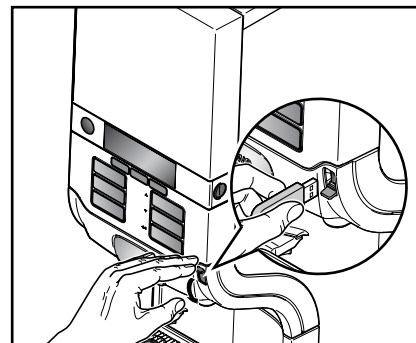

Fig. 23
- Insert the USB release key into the USB port on the dispenser to enable temporary drink delivery (fig. 23).